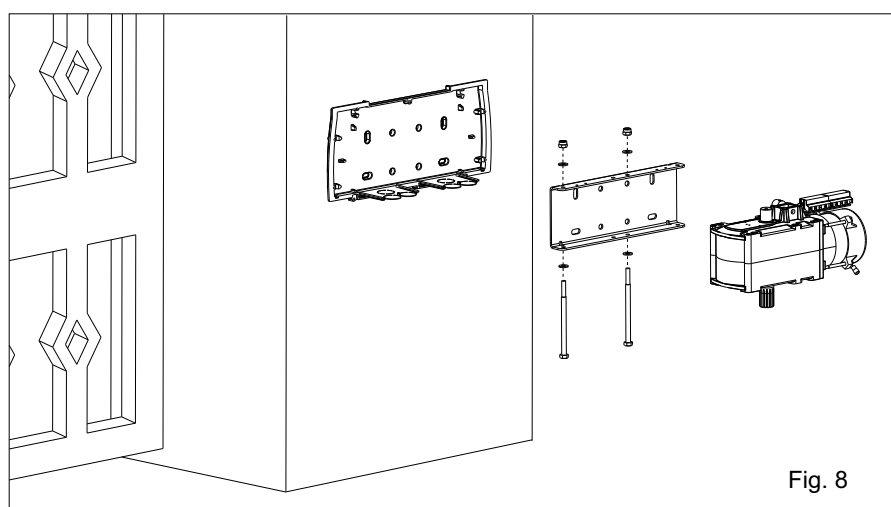

Fig. 8
- Mount the motor on the anchor plate using the 2 furnished screws (Fig.8).